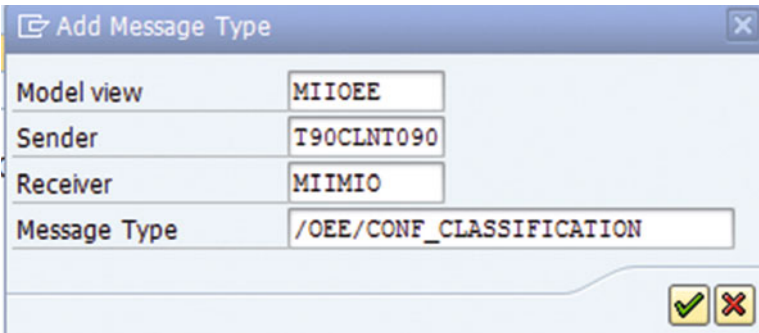

Figure 3-69. Create customer distribution model: add message type
- On the Add Message Type screen, enter the following data (refer to Figure 3-69).